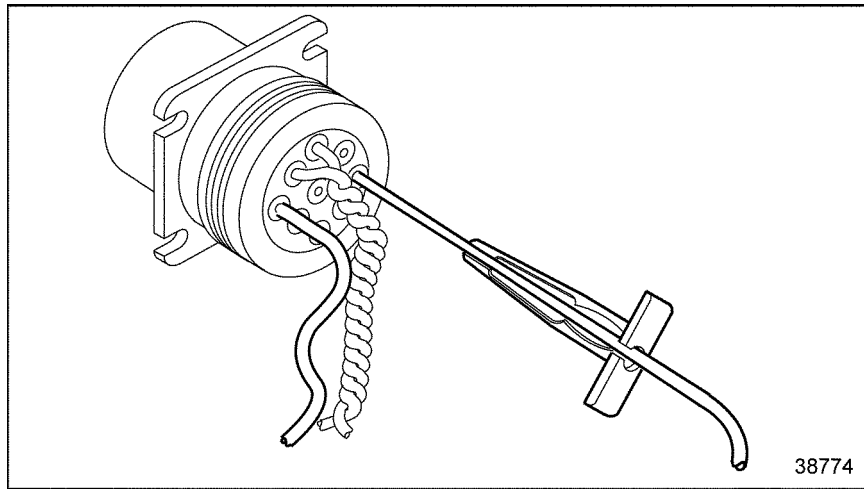

Figure 2-12 **Removal Tool Position**
1. With the rear insert toward you, snap the appropriate size remover tool over the cable of contact to be removed. See Figure 2-12.